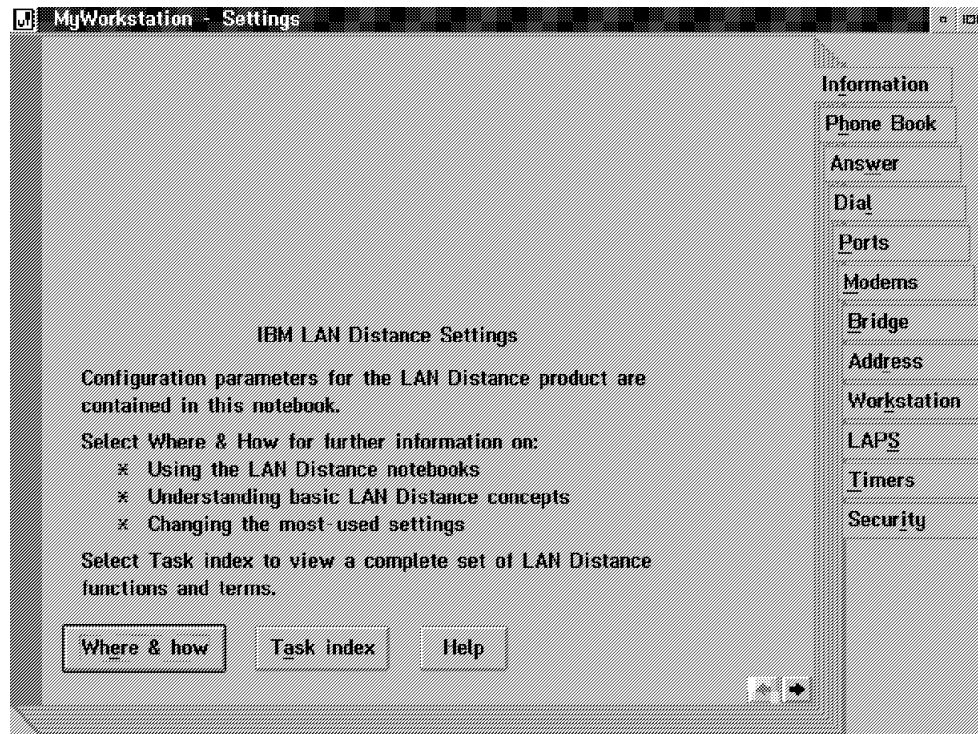

Figure 116. Settings Window
The LAN Distance Settings notebook is displayed, as you can see in Figure 116 on page 130.
1. Select the **Modems** tab from the Settings notebook. (See Figure 116 on page 130).
1. Select the **Bridge** notebook tab from the Settings notebook. (See Figure 116 on page 130).
1. Select the **Answer** tab from the Settings notebook. (See Figure 116 on page 130).